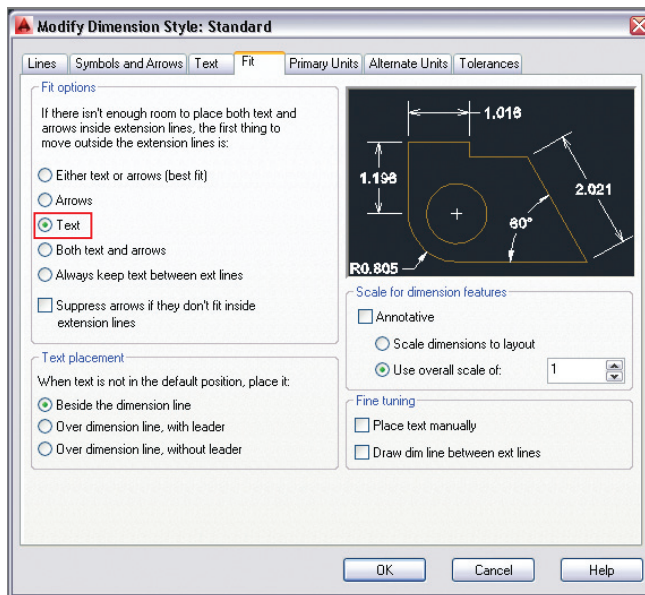

FIGURE 11.23 Changing a fit option in the dimension style
5. Select the Fit tab in the Modify Dimension Style: Standard: Angular dialog box. Select the Text radio button in the Fit Options section (see Figure 11.23). Click OK and Close to close all open dialog boxes. The angular values appear outside the lines being measured.